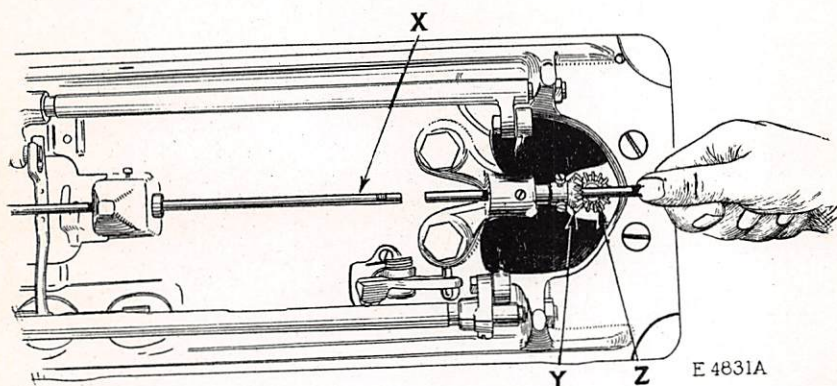

Fig.25. Removing and Replacing Sewing Hook Shaft
Before removing the hook shaft (X, Fig. 25) from the machine, the gears (Y and Z, Fig. 25) should be marked with chalk or red pencil on one of the teeth of the gear (Y) and the space of the gear (Z) in which the marked tooth meshes. This is important, as the gears may become dislodged when removing the hook shaft, and the marks will enable you to retain the original relative positions of the gears.
To remove the hook shaft, loosen the two set screws in the gear (Y, Fig. 25), then insert the new hook shaft into the gear
in Fig.25. By removing the old shaft in this manner, the relative positions of the gears (Y and Z) will not be disturbed.
When placing the new shaft in position in the machine, see that the flat portion near one end of the shaft is at the right so that one of the set screws in the gear (Y, Fig.25) will bear against it when the gear is fastened in position on the shaft. The shaft should be set so that its left end is flush with the front (left hand) side of the body of the sewing hook.